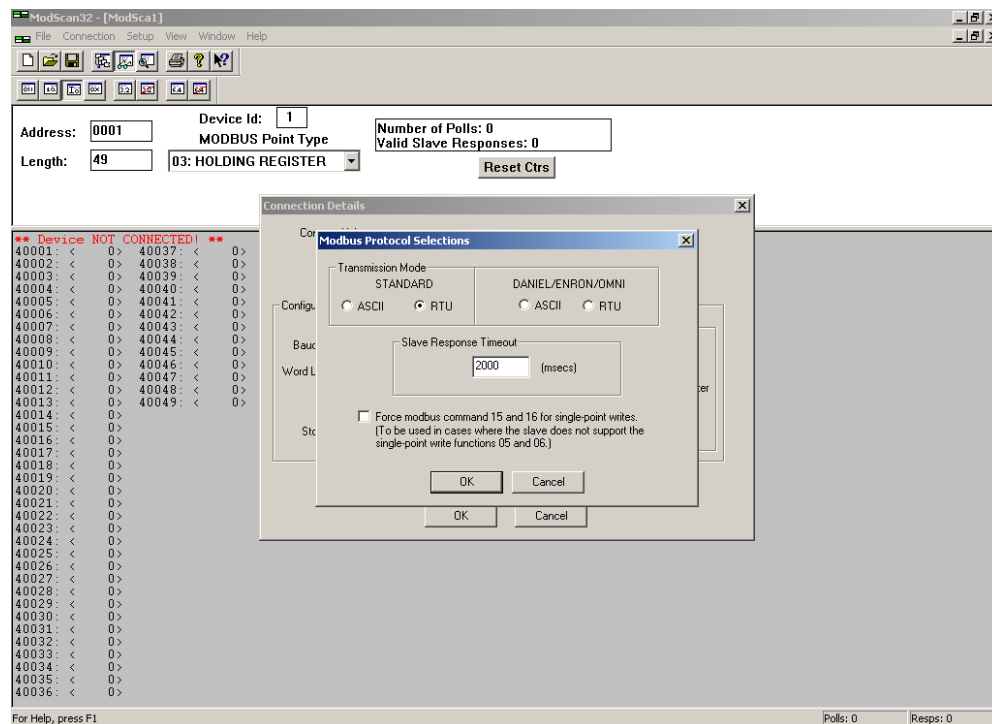

FIGURE 20-17. MODBUS PROTOCOL SELECTION DIALOG BOX
3. Click on the “Protocol Selections” button and change the Transmission Mode to “RTU” (see Figure 20-17). Click “OK.”